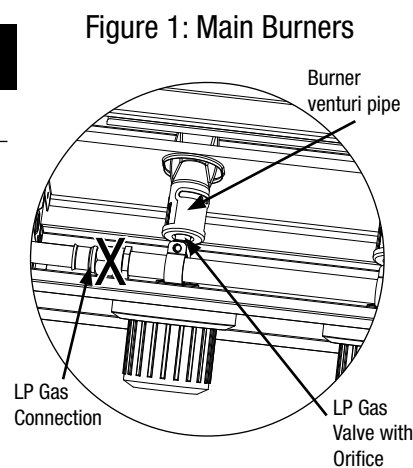

Figure 1: Main Burners
4. Please refer to diagram for proper installation (Figures 1 and 2).
5. Spoon several drops of solution, or use a squirt bottle, at all "X" locations (Figures 1, 2, 4a and 4b).